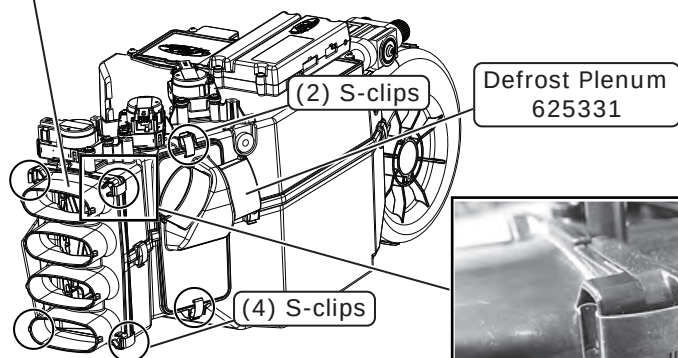

Figure 2
3. Install the dash plenum using (4) S-clips (See Figure 2 and Photo 3, below).
4. Install the defrost plenum using (2) S-clips (See Figure 2, below).